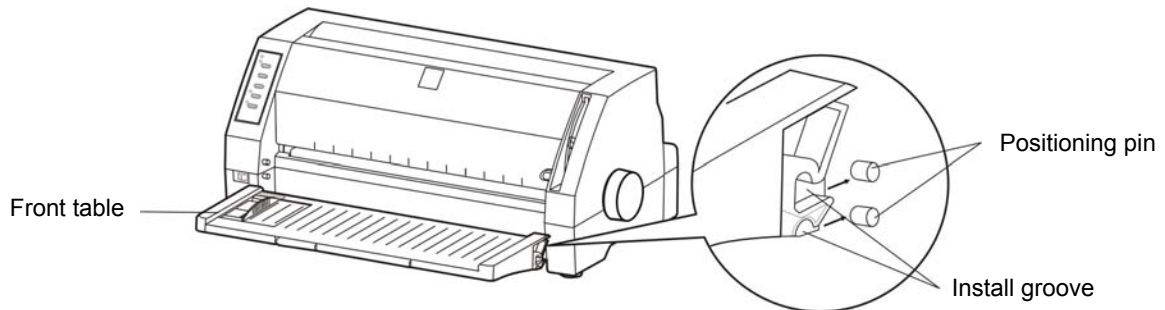

Figure 2-5 Installing the front table
1. Hold both ends of the front table, make sure the install groove aimed at the positioning pin of crust inside (as Figure2-5 shown), then push it forward.